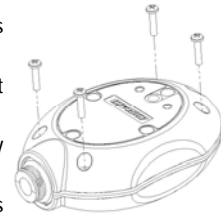

FIG 1
1. Open the enclosure: Remove the four (4) Phillips screws from the rear of the enclosure, FIG 1.